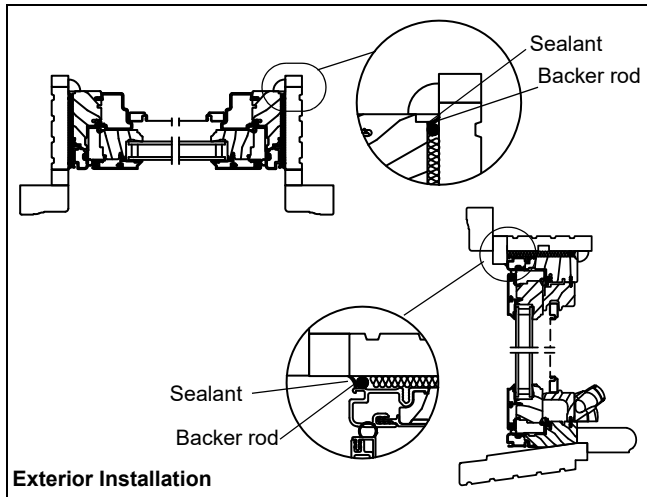

Figure 11
- For **exterior installed applications**, apply a backer rod between the insert frame and existing window frame at the head and side jambs. Place a bead of sealant over the backer rod so that it contacts both the insert frame and existing window frame. If necessary, trim out units with frame expander or with wood trim. See figure 11.